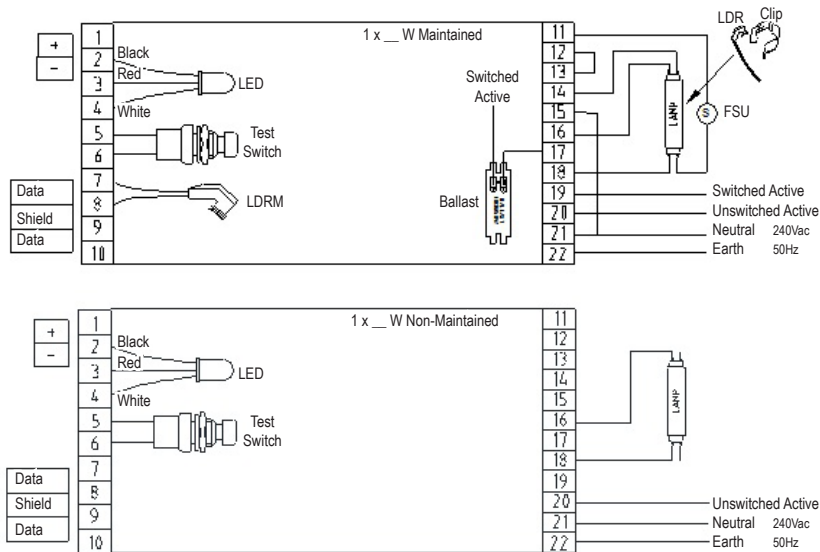

Figure 2: Wiring Diagram Nexus Power Pack using conventional magnetic ballast
Data cable connects via the 3-way strain relief plug (supplied with the Power Pack) to the data terminal as shown in Figure 2.
4. Light sensing clip (LDR) monitors mains on/off lamp condition and is to be affixed on the mains lamp/tube refer Figure 2. Please note the light sensing clip (LDR) is not supplied for PL lamp Power Packs and the PL lamp power packs are programmed as non-maintained. (Refer PL lamp warning on page 1)